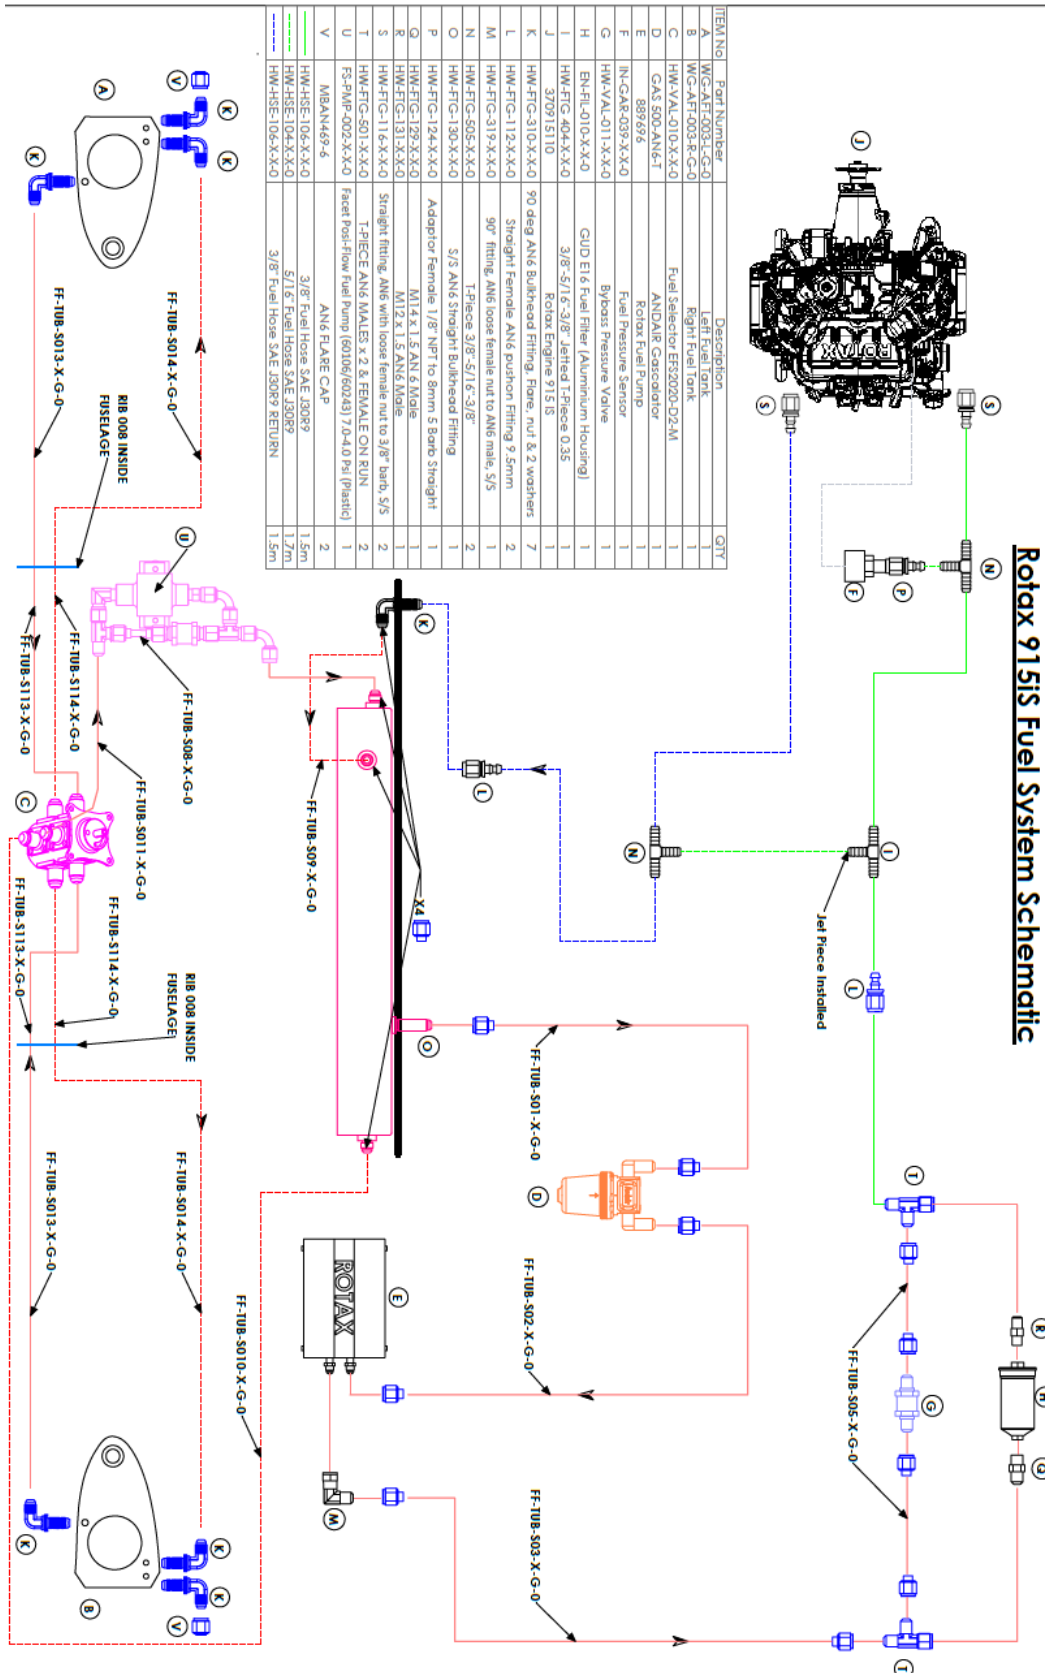

Figure 56: Fuel system.
Refer to Figure 56 which illustrates the fuel system with a Rotax fuel pump assembly (E). Some aircraft are alternatively fitted with Andair duplex fuel pumps. The aircraft is equipped with two aluminium fuel tanks (A, B) within the wing leading edges, accessible for inspection through dedicated panels.